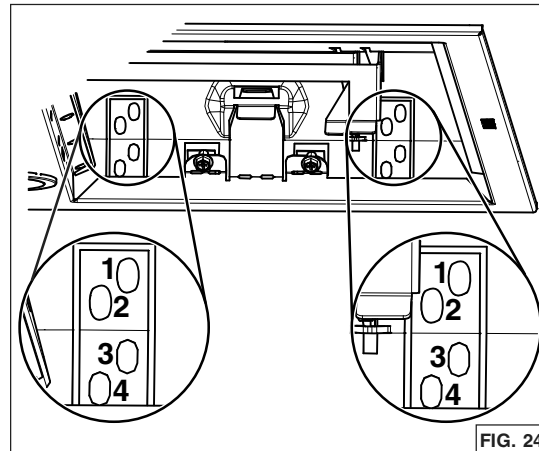

FIG. 24
- Lift the unit until contact is made between the unit flange and cabinet. Secure the unit to the cabinet using 4 no. 8 x 5/8" wood screws included in parts bag (2 screws per side). Use upper or lower holes (**1, 2, 3** or **4**) (FIG. 24)